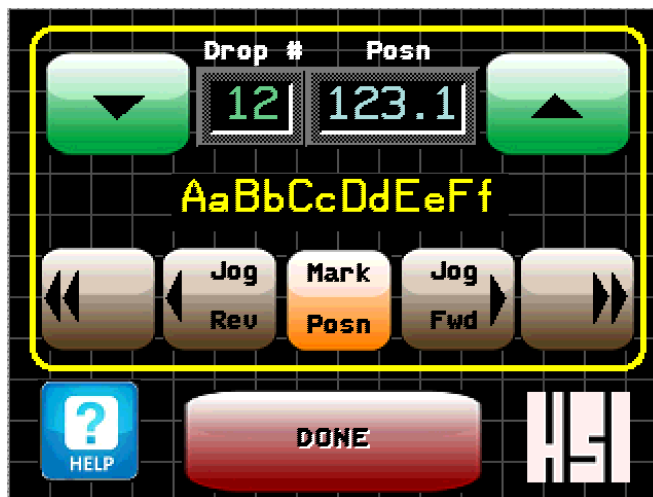

Figure 3.10
4. Calibrate drops (Figure 3.10).